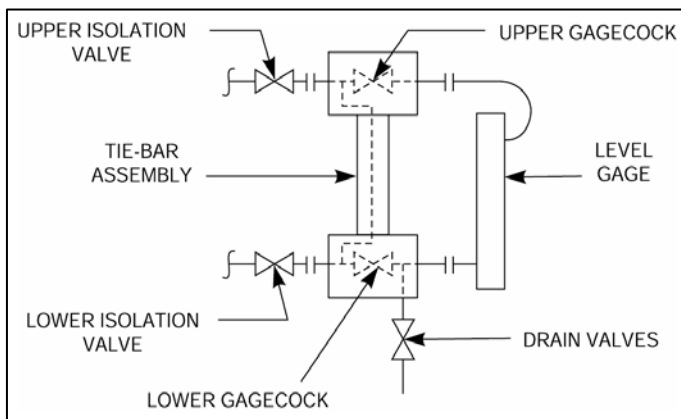

Figure 2A: Gages w/ Tie-Bar, Gage cocks & Isolation Valves
5.2.1 Gages with Tie-Bar, Gage cocks and Isolation Valves (Figure 2A)